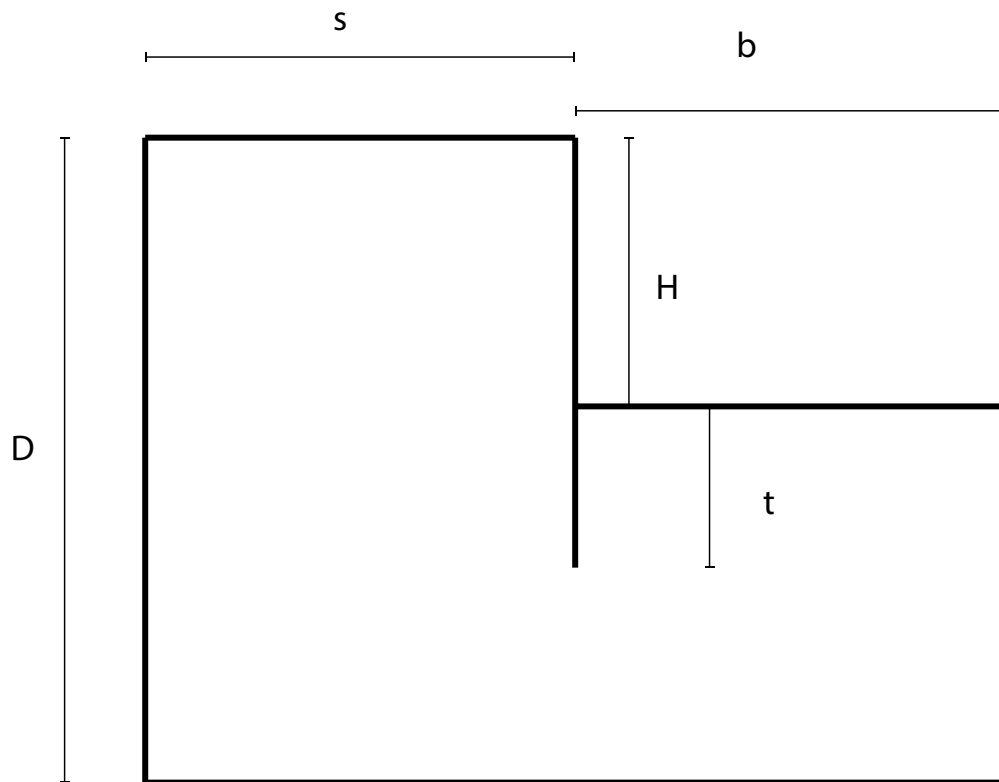

Figure 1: Sketch of a sheet pile wall.
- The sheet pile wall—which is separating the excavation from the ground level (see figure 1)— is impermeable (note: consider a small thickness of the wall when creating the mesh in order to impose this boundary condition).
In the first week, you have meshed the problem for arbitrary dimensions (see figure 1), now, you are asked to compute the solution (piezometric head + flux at all the nodes) for the following two particular cases: